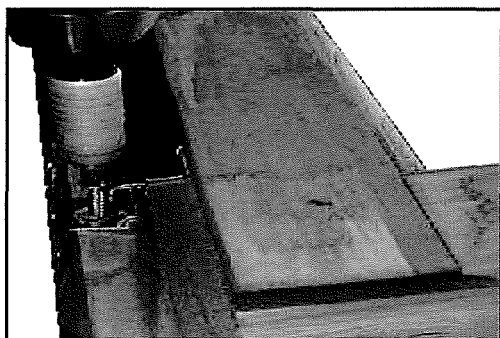

Fig A14
23. Open the window fully in order to fit a further 2x 25mm screws per hinge ( Fig. A14 ).